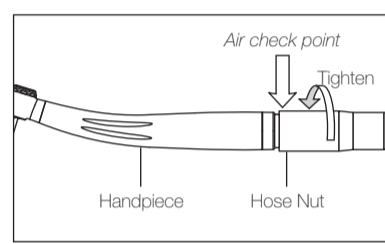
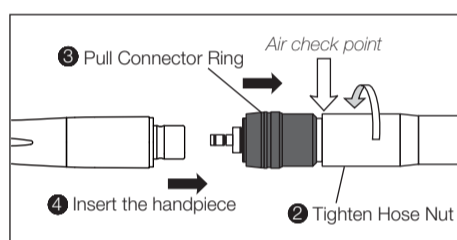

Fig. 1
Fig. 2
- 2) Tighten the Hose Nut. (Fig.1)
- 1) Slide back the Connector Ring as shown in Fig. 2.
Set the Air pressure at the arrowed point on Fig. 1 and Fig. 2. The setting values are on the specification table. Do not exceed the recommended air pressure.